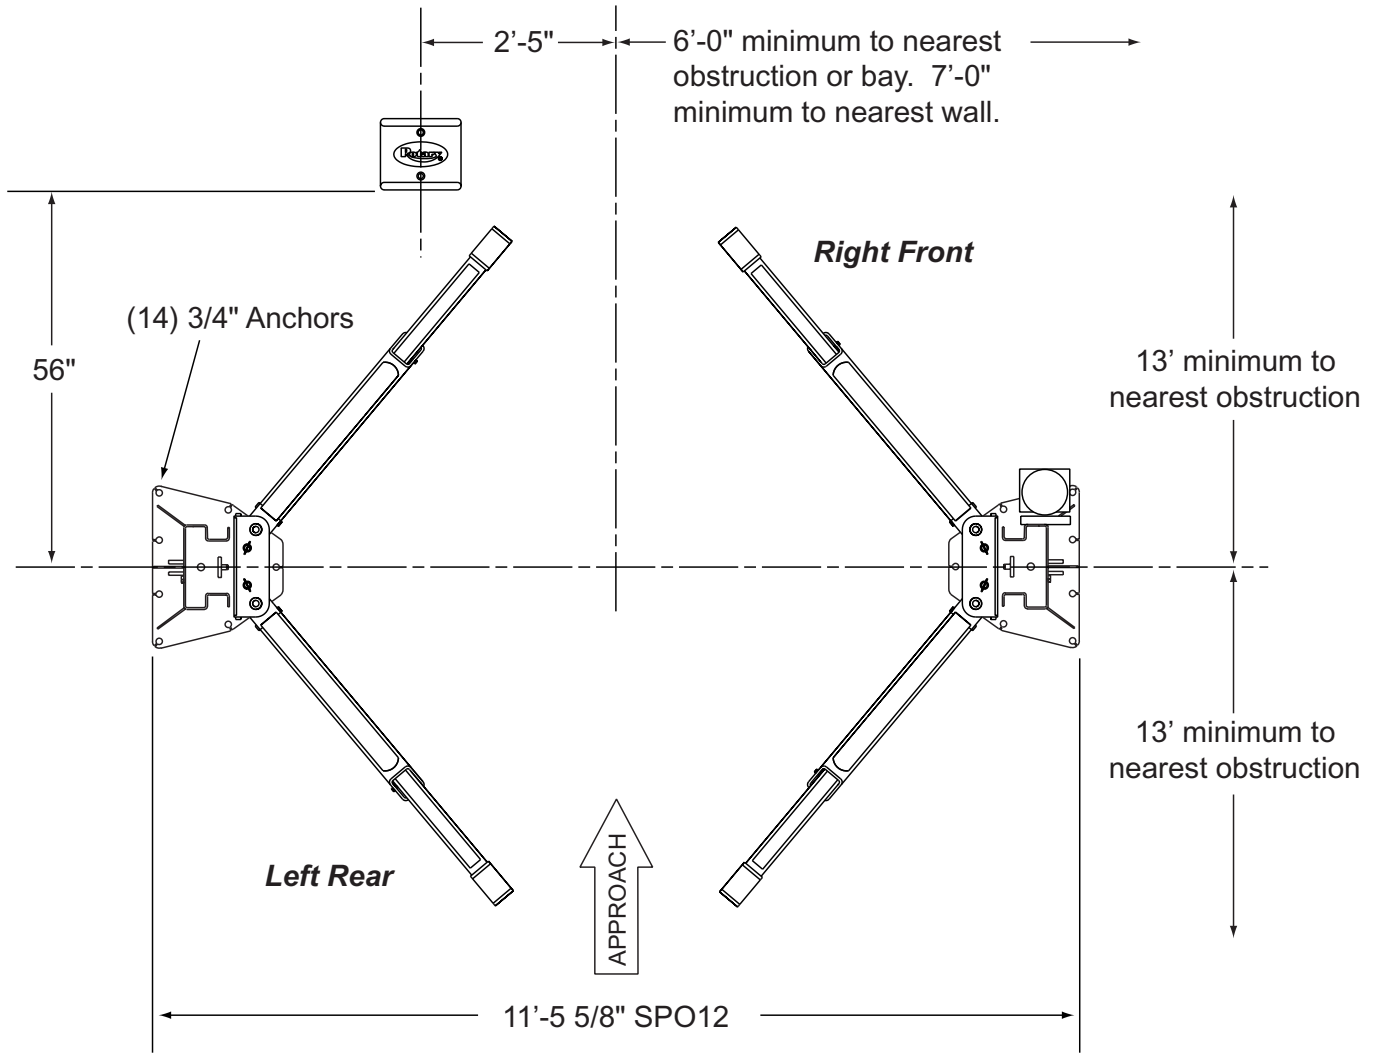

Fig. 1
1. Lift Location: Use architects plan when available to locate lift. Fig. 1 shows dimensions of a typical bay layout.
3. Lift Setting: Position columns in bay using dimensions shown in Fig. 1. Place column with power unit mounting bracket on vehicle passenger side of lift. Both column base plate backs must be square on center line of lift. Notches are cut into each base plate to indicate center line of lift.